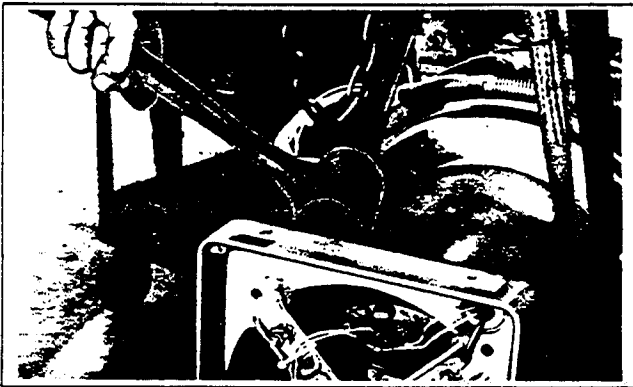

Figure 5-6. End Bracket Removal
10. Bump end bracket with a soft, rubber mallet. Figure 5-6.